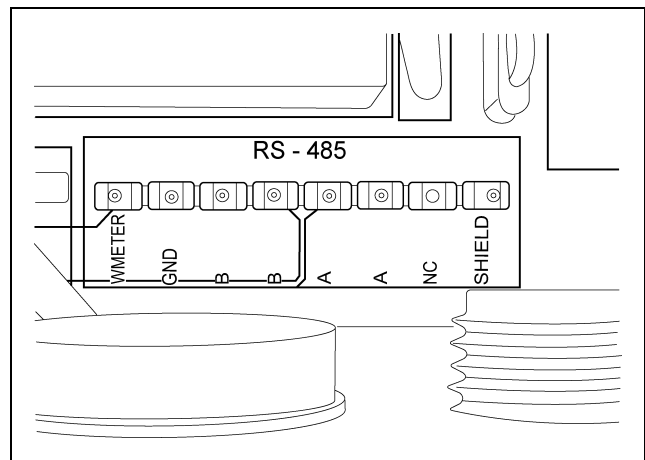

Figure 8B Terminal Strip Pins Labeled on Board
- c. Attach the wires to the terminal strip by loosening the lugs on terminal strip that correspond with (WMETER and GND) labeled on the board. Slide wires down through top of terminal and tighten lugs. (See Figure 8B.)